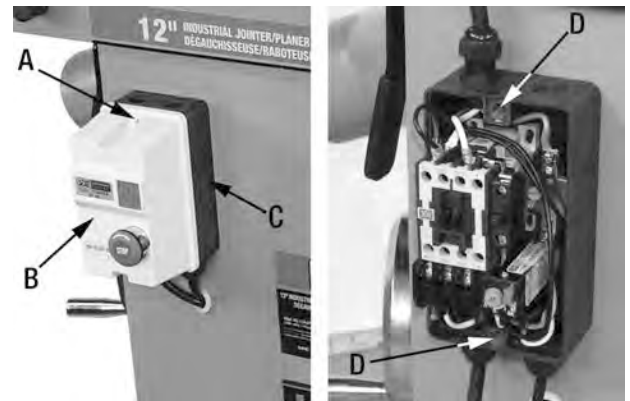

FIGURE 4
2. Using a Phillips screwdriver, remove the 2 white plastic screws (A) Fig.4 which secure the switch cover (B) to the main switch housing (C).
3. Using the mounting screws removed in step 1, secure the main switch housing (C) to the cabinet stand by installing the 2 mounting pan head screws through the two holes (D) in the main switch housing, as shown in Fig.4.
4. Reinstall the switch cover (B) using the 2 white plastic screws (A).